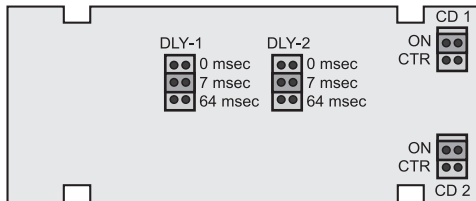
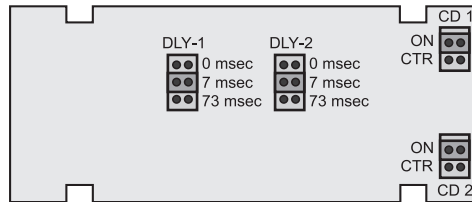

Figure 1. Jumper Locations (64 kbps unit)
Figure 2. Jumper Locations (56 kbps unit)
2. Configure MME/V.35 according to the desired mode, referring to Figure 1, Figure 2 and Table 1.